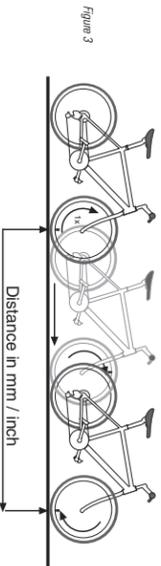

Figure 3
STEP 1 Stand your bicycle upright. With your tire inflated to its proper pressure, rotate your front wheel so that the valve is located at the bottom (6 o'clock position). Make a mark on the floor to indicate the valve location. See Figure 3.